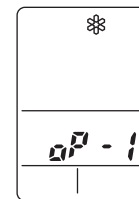

Fig. 30
- d) ✻ appears and “oP-1” blinking in the remote controller clock display area. (Fig. 30)